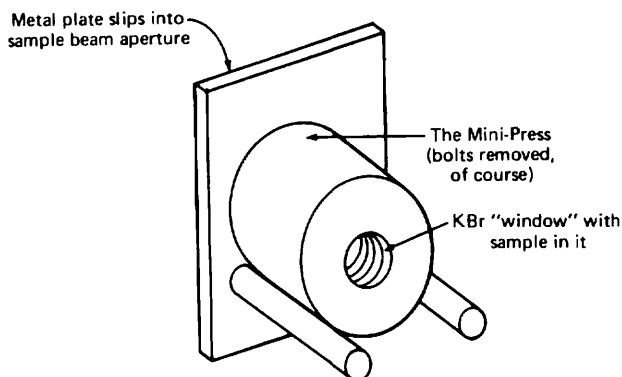

Fig. 155 The mini-press in its holder.
6. Put the entire press in a holder placed in the analyzing beam of the IR, as in Fig. 155. (Don't worry about that yet; I'll get to it in a moment. See "Running the Spectrum" in the next major section.)